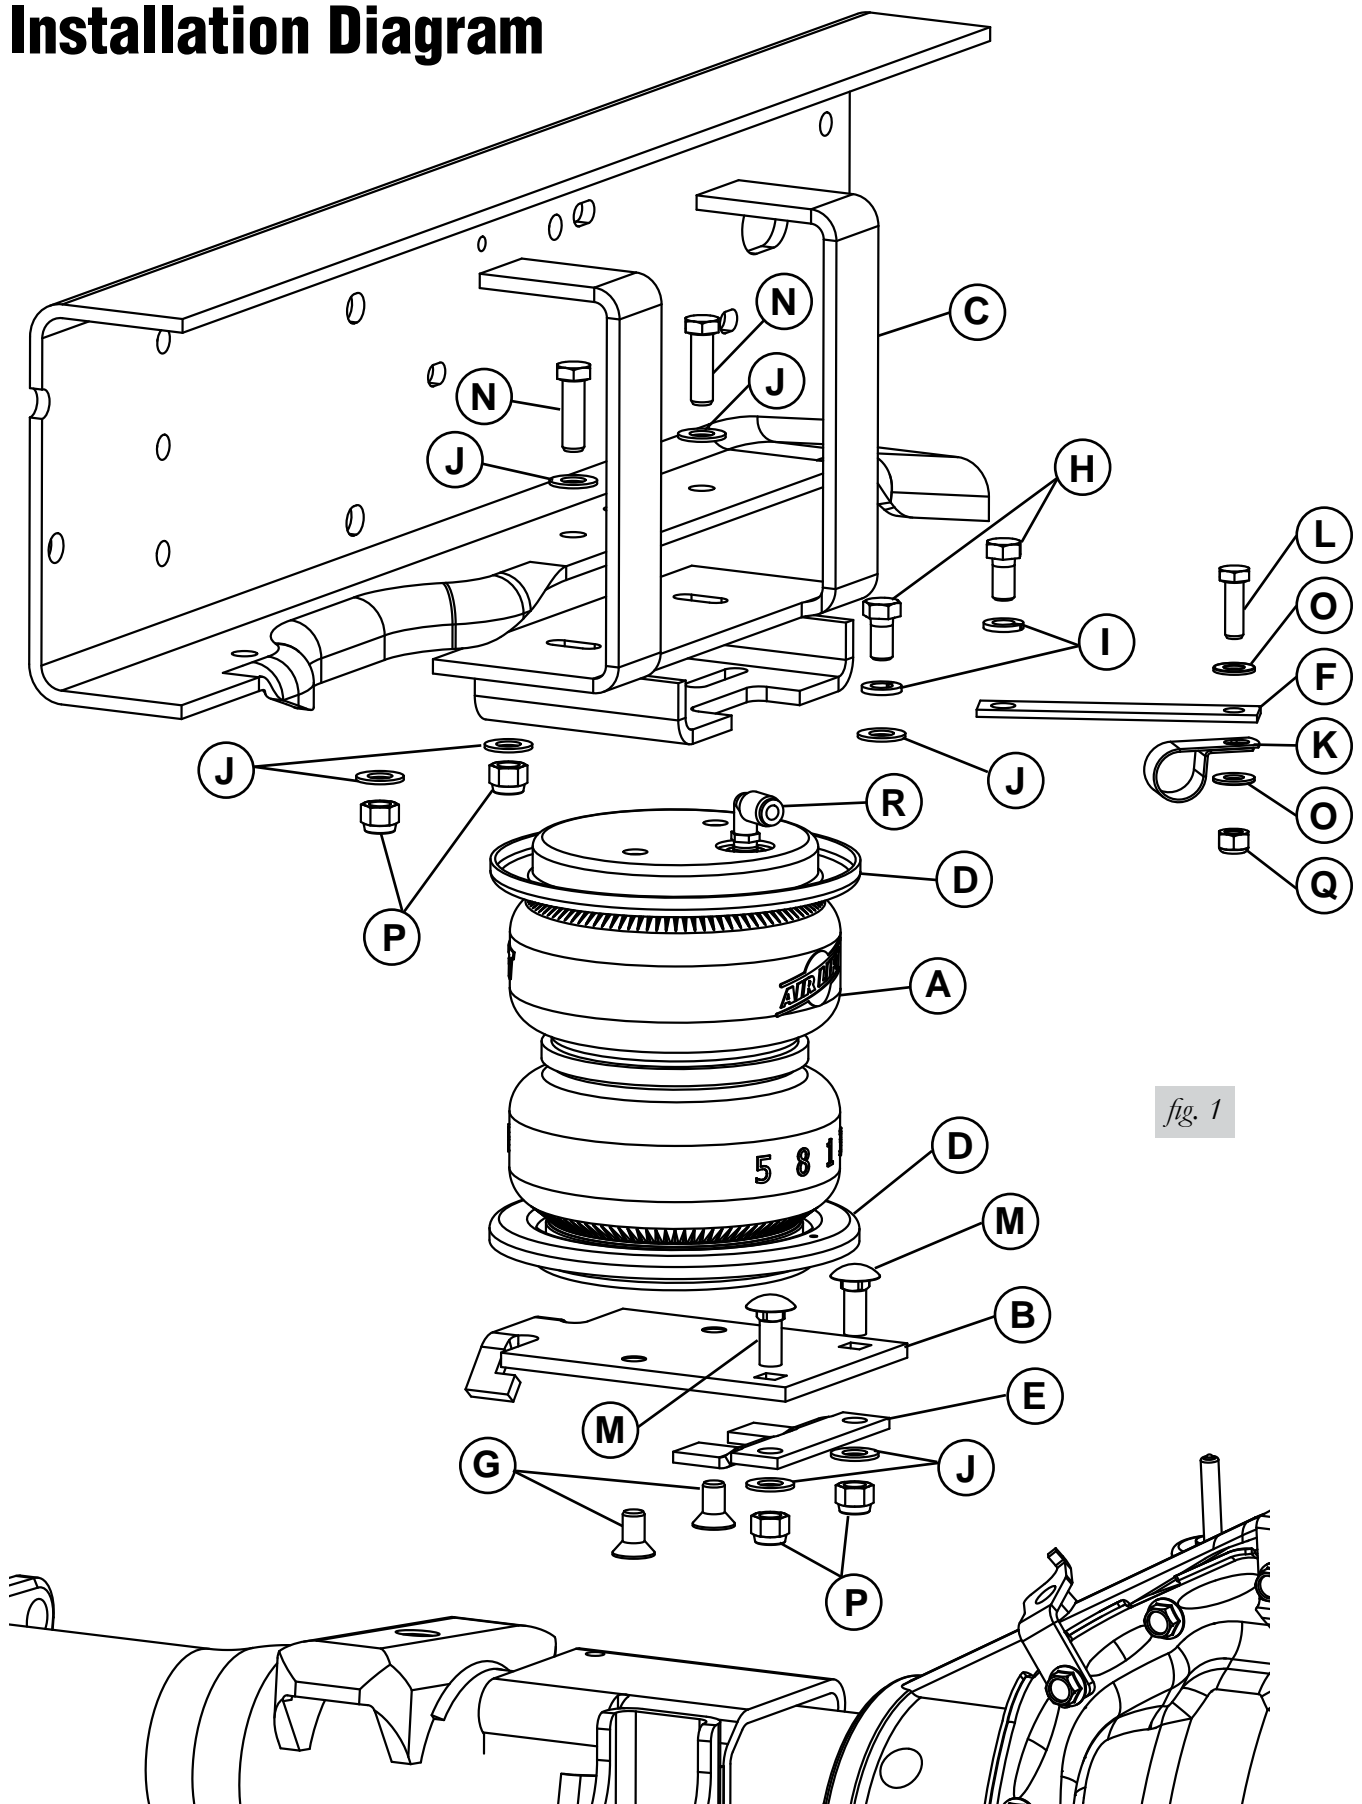

fig. 1
1. Set the roll plates (D) on both sides of the Bellows (A). The radius (rounded edge) of the roll plate will be towards the air spring, so both ends are seated in both roll plates (fig. 1).
2. Install the 90° swivel elbow fitting (R) to the top of the bellows (A). Tighten finger tight plus 1 and a ½ turns. Be careful to only tighten on the hex nut. Do not over tighten.